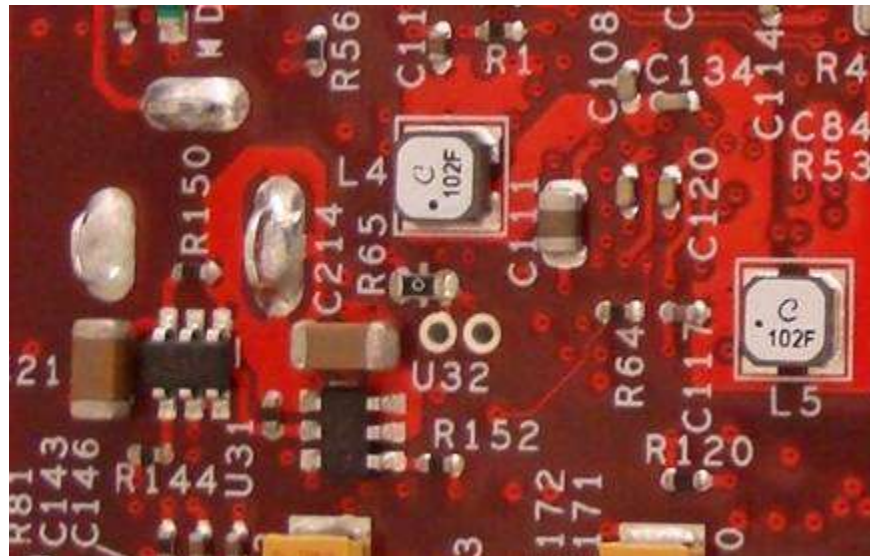

Figure 75. Resistor R65
- 2) Remove **R65** from the board as shown on **Figure 75**.